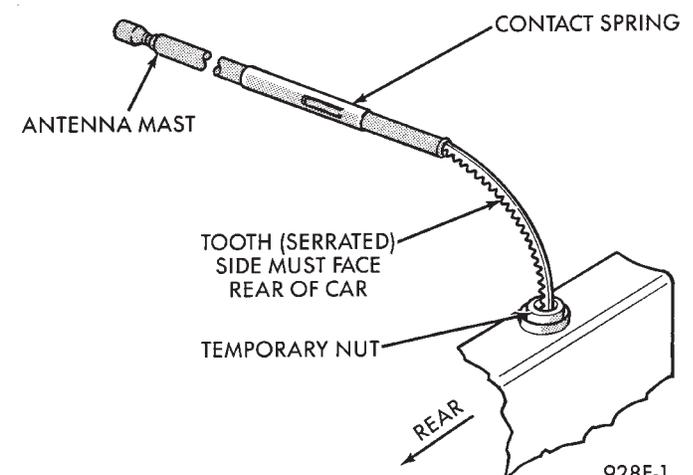

Fig. 20 Power Antenna Mast
- Insert new drive rod into mast tube with drive teeth toward antenna motor (Fig. 20).